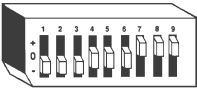

FIGURE 2
- B. If the transmitter doesn't activate the operator, check the coding switches on both the transmitter and receiver to assure an "exact" match. (See Fig. 2 & 3). This may necessitate a reprogramming of a Quik Code Classic transmitter to match the receiver coding switches.
Models 9931, 8832, 8833: The coding switch in these models consist of eight or nine small switches, each of which can be placed in any of three different positions. (+, 0, -). **See Fig. 2.** Using a small screwdriver, set both the transmitter and receiver coding switches identically. (Your private code setting).